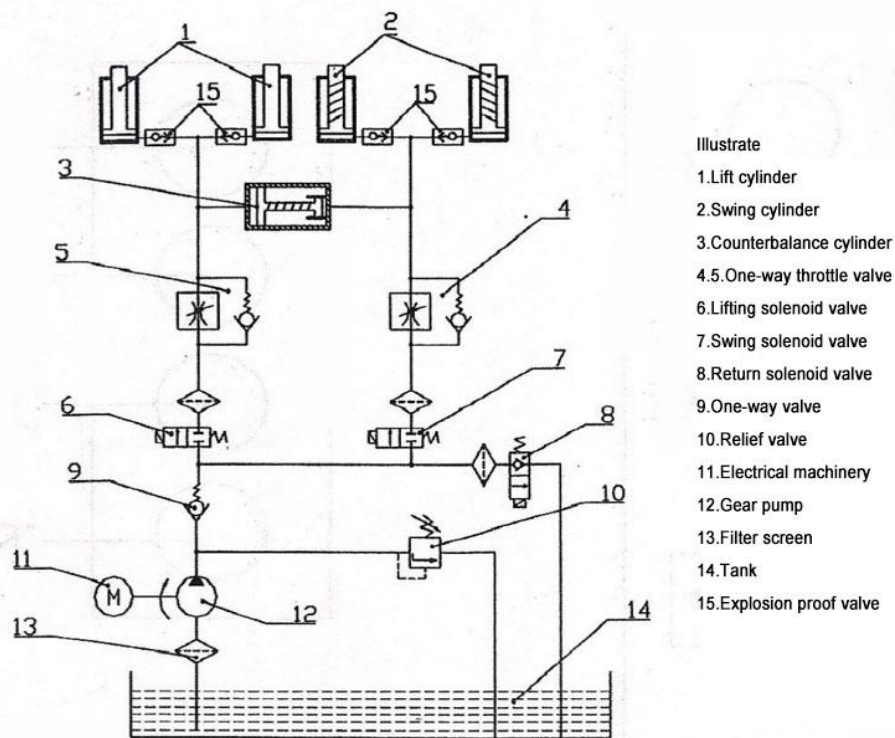

Figure 2-1 Hydraulic schematic diagram
tailboard is lifted and lowered by two lifting oil cylinders, flipped up and down by two flipping plate oil cylinders, and slowly tilted towards the ground when the plate root touches the ground by one balance oil cylinder, until it is tightly against the ground; The electric control box consists of a box body, operation buttons, power switch, 10A fuse tube, etc. (see Figure 2-3): the power unit consists of an oil pump, DC motor, motor starter, overflow valve, one-way valve, unloading valve, electromagnetic directional valve, filter screen, oil tank, etc. (Figure 2-1).
2.1 Hydraulic Schematic Diagram(see Figure2-1)